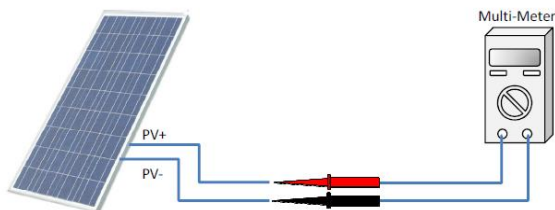

Figure 3-20 Polarity check
- (c) Check the polarity (Figure 3-20) before plugging the DC connectors with the cables of PV strings according to the following steps: